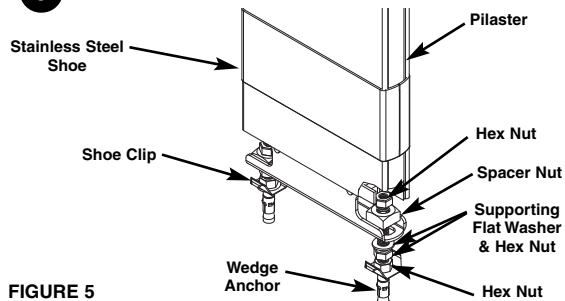

FIGURE 5
- Drill  $\varnothing 3/8"$  holes (1-5/8" minimum depth) in the floor and remove all dirt and debris from the holes. Insert a wedge anchor into each hole and secure with a shoe clip and hex nut at floor level (see figure 5).
- Level pilaster from one compartment to the next by adjusting support nuts on the threading rods. See figure 5.